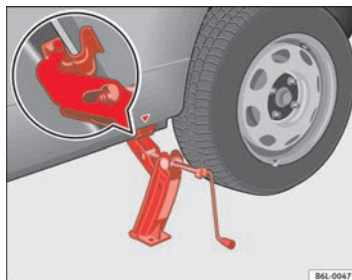

Fig. 138 Fitting the jack
- Align the jack so that the arm of the jack fits around the rib under the door sill and the movable base plate of the jack is flat on the ground ⇒ **fig. 138**.